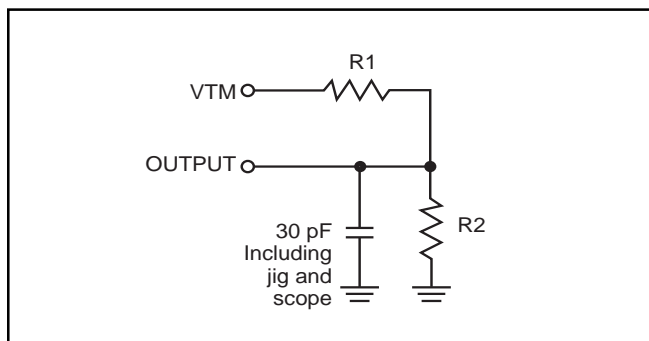

Figure 1
- Test conditions assume signal transition times of 5 ns or less, timing reference levels of 0.9V/1.5V, input pulse levels of 0.4 to V_{DD}-0.2V/V_{DD}-0.3V and output loading specified in Figure 1.
1. Test conditions assume signal transition times of 5 ns or less, timing reference levels of 0.9V/1.5V, input pulse levels of 0.4V to V_{DD}-0.2V/V_{DD}-0.3V and output loading specified in Figure 1.